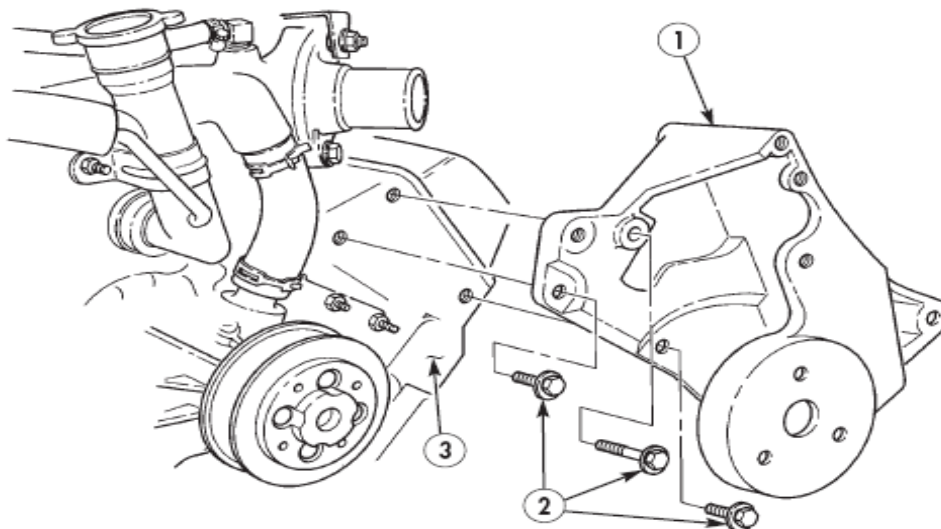

Figure 14
n. Removal of Alternator/Power Steering Mounting Bracket. TM 9-2320-387-24-1, Chapter 4, Task Para 4-3.1, Page 4-4 and **Figure 14** contained in these instructions.
(1) Remove three screws (2) and alternator/power steering mounting bracket (1) from engine (3).